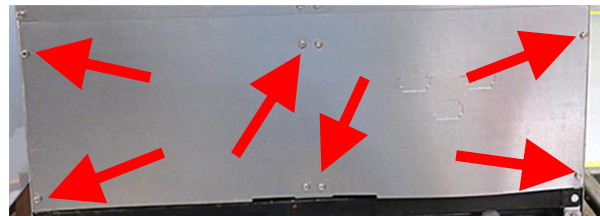

Figure 3
5. Remove the lower back by removing the eight (8) screws (see Figure 3). If a four (4) battery or larger, remove both lower backs.